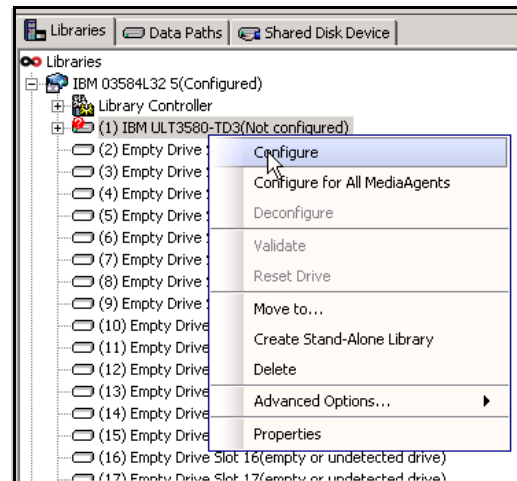

Figure 19-10 Configure first tape drive
- Configure the first detected tape drive from the Libraries tab (Figure 19-10). This action allows you to configure all other tape drives in the future in one step.